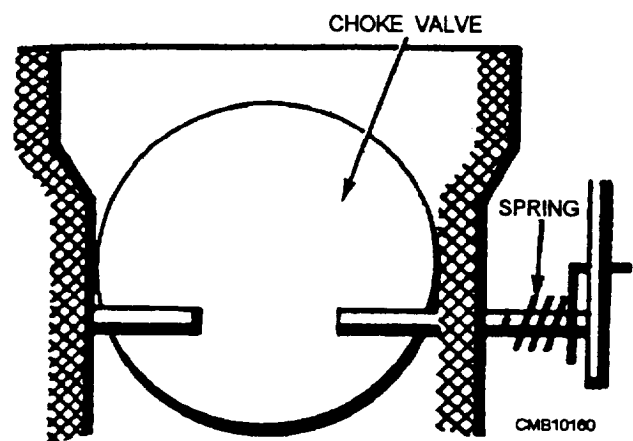

Figure 4-31.—Off center choke valve.
- An off-center choke valve (fig. 4-31) that creates a pressure differential between the two sides of the choke plate when it is subjected to engine intake, causing it to be pulled open against the force of spring loaded linkage.